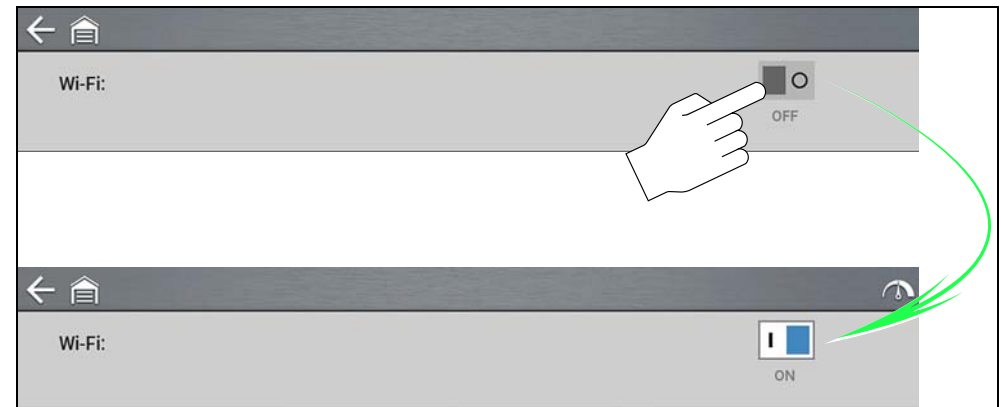

Figure 12-1
1. To turn Wi-Fi on/off, select the **Wi-Fi power** icon (Figure 12-1).